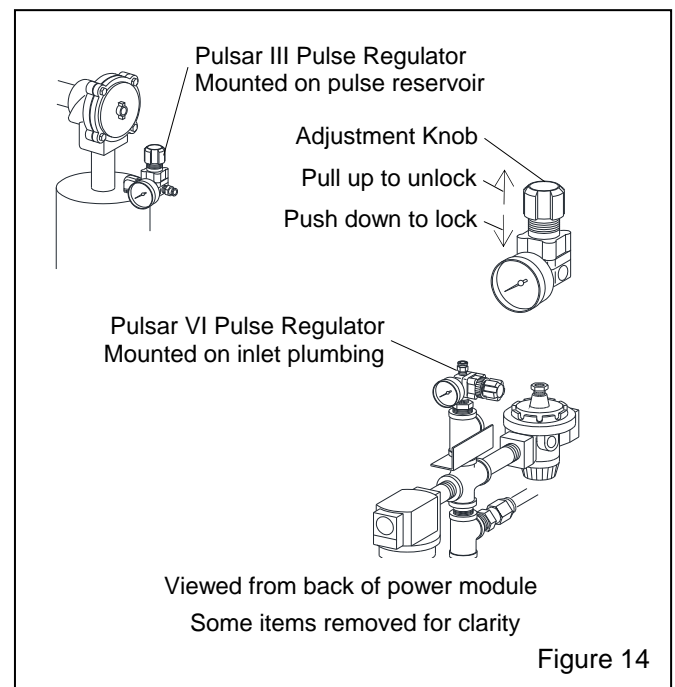

Figure 14
**5.6.1** Adjust pulse pressure using the regulator mounted on the pulse reservoir on Pulsar III models and on the pulse inlet plumbing on Pulsar VI models (refer to Figure 14). Begin pulse at 60 psi. To adjust pressure, pull the knob to unlock it, as shown in Figure 14, turn clockwise to increase pressure or counterclockwise to decrease pressure. Once operating pressure is set, push the knob to lock it and maintain the setting.